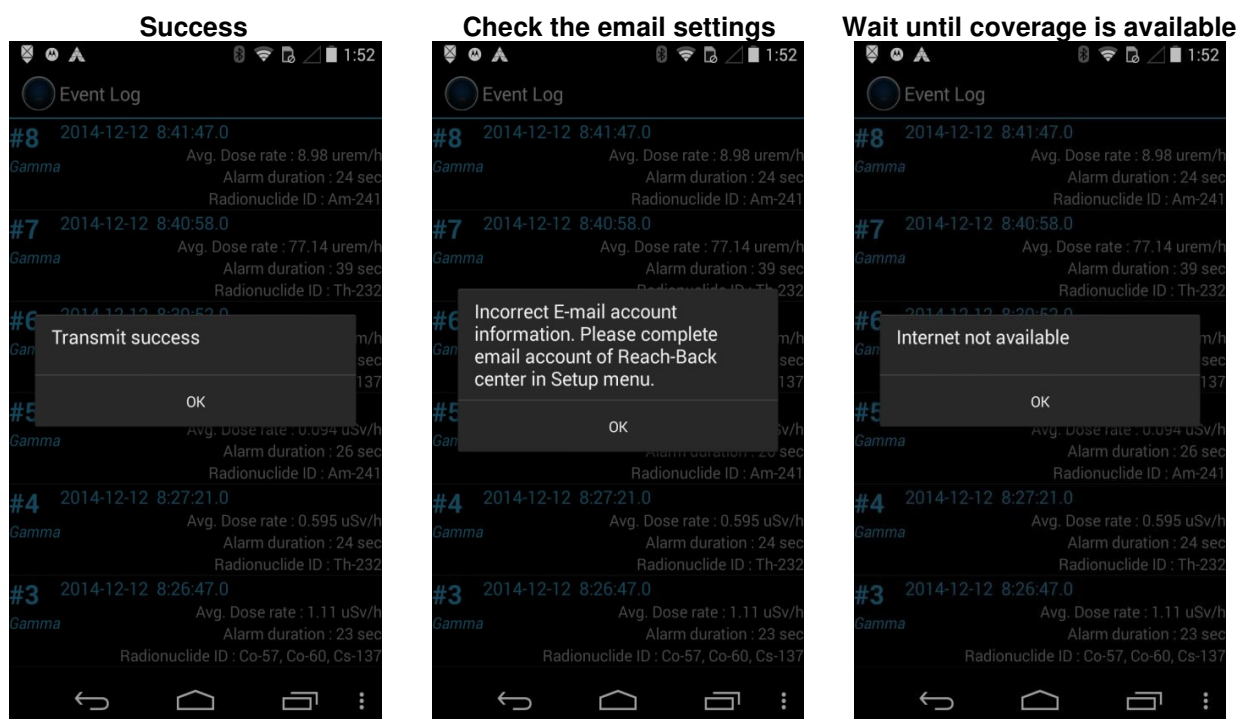

Figure 4.35. Transmission results messages
3. View the results (Figure 4.35)